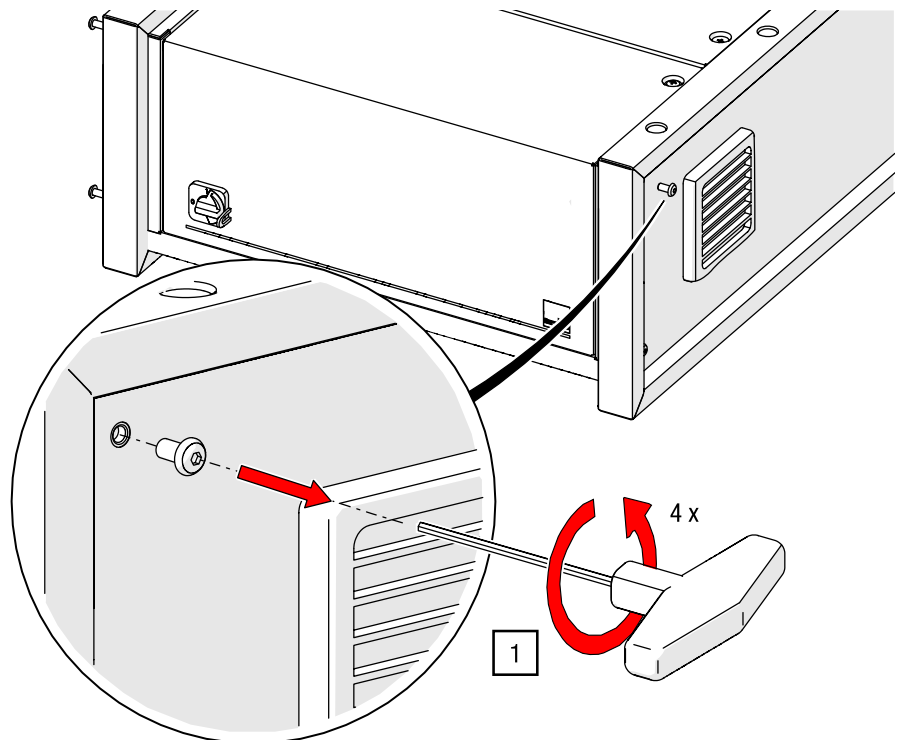

Fig. 33: G-FRAME control unit – loosening the screws for the rack brackets (model may vary)
G-FRAME control unit	The control panel is mounted on the front of the horizontal control unit (see Fig. 33).
1. Loosen the four [pre-fitted socket head capscrews] at the front using a size 4 HEX-key (see Fig. 33).